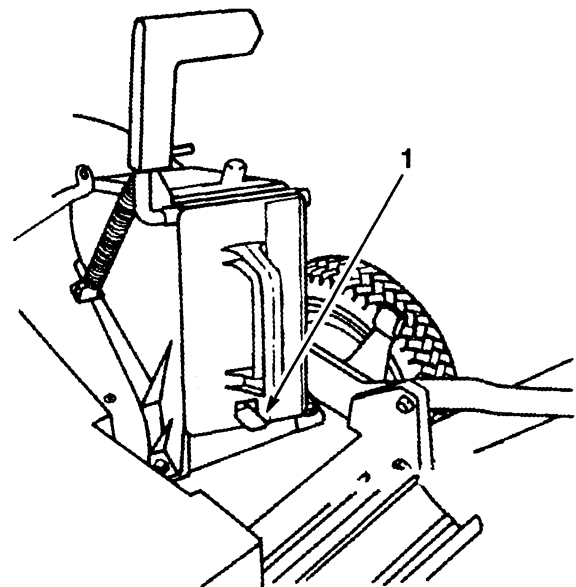

Figure 5
3. Push the plug all the way in until the spring clip on the bottom of the plug clicks into place, locking the plug securely into the discharge tunnel (Fig. 5). Release discharge door handle to lock top of plug.